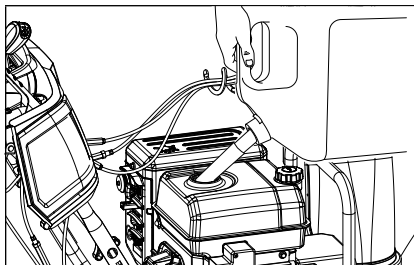

Figure 9
2. Add fuel to the bottom of the fuel level limit in the neck of the fuel tank. Do not overfill. Wipe up spilled fuel before starting the snowblower (Fig. 9).